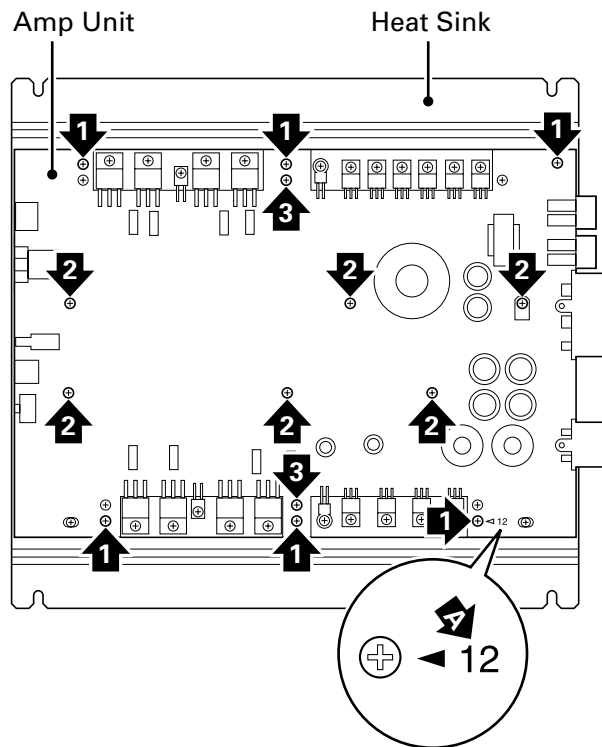

Fig. 3
● Removing the Amp Unit (Fig. 3)
- 5) Secure the Amp Unit on the Heat Sink with screws. (Fig. 3)